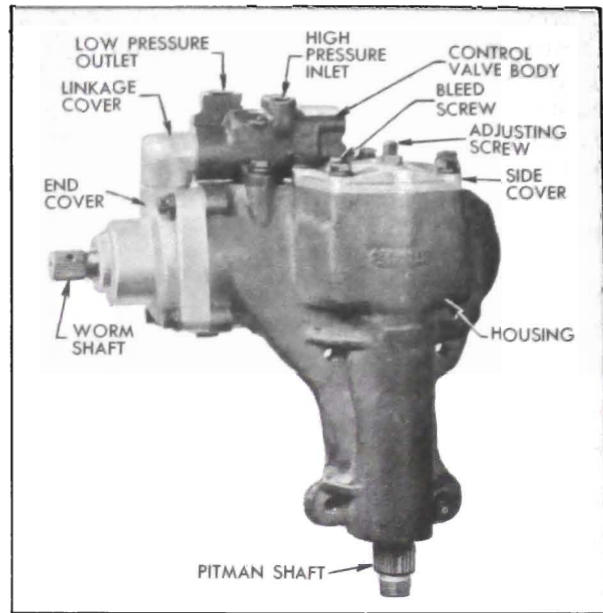

Figure 8-17—Right Side of Power Steering Gear Assembly
2. Remove the control valve retaining bolts and lift control valve and linkage cover off the gear housing. Then pull the linkage cover out of the valve body. See Figure 8-17.